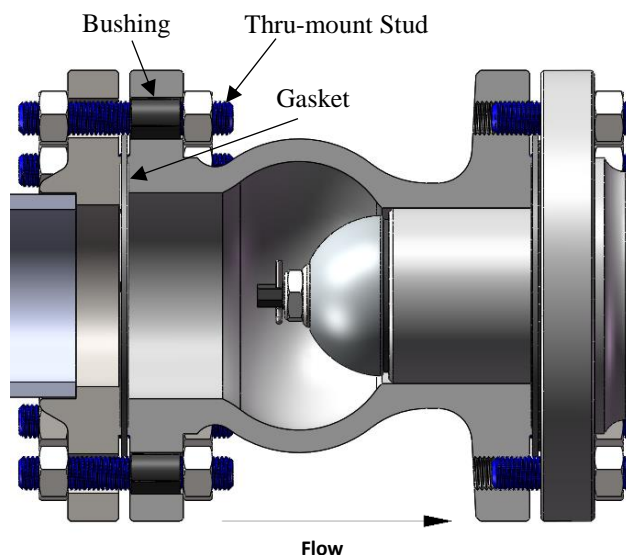

Figure 4: Final Installation
2. Install flange bushings into thru-holes of bell housing flange, see Figure 4.
3. Install longer thru-mount studs onto second flange of bell housing, with a flange nut on the end of each stud, see Figure 4